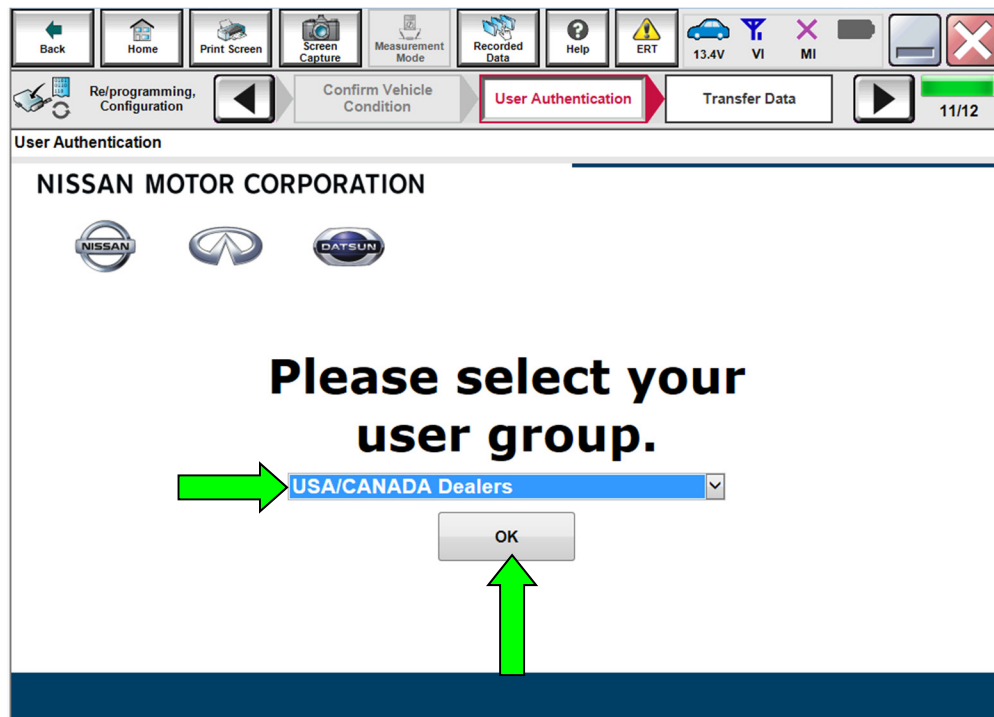

Figure 20
- The screen in Figure 20 on page 13 may not display if the CONSULT PC has remained ON since the last reprogramming.